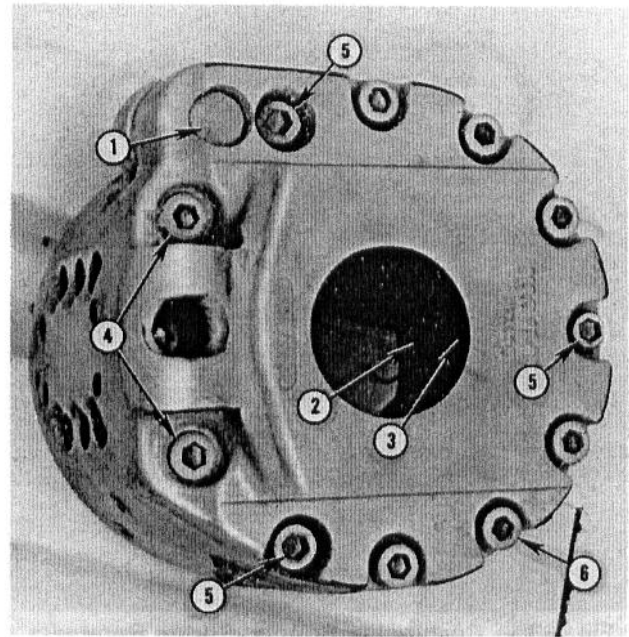

Fig. 42 — Bottom Plate Assembled to Barrel
17. Remove bottom end-plate from barrel assembly, using the same procedure as described in steps 7 and 8 (for removal of top end-plate), making sure that the large dowel pin is removed. See Fig. 42.
12. Install new wave washer, spiral washer and wedge seal in bottom end-plate in the order shown in Figs. 28 and 29 ... also see Fig. 42.
NOTE: Install capscrews in locations indicated in Fig. 42 ... dowel pin to be inserted through bottom plate and into barrel. Capscrews with washers to be installed in holes that are threaded through bottom plate.